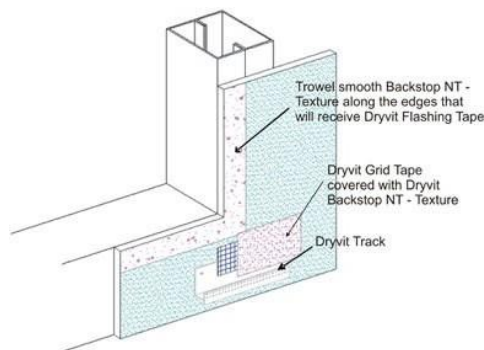

Fig. 18
- i. For concrete and masonry, ensure that a continuous film of uniform thickness is applied across the entire surface and across mortar joints. Minimum two (2) coats are required allowing a minimum of two (2) hours between coats. Cool, damp weather may require longer time between coats.
- d) While the Backstop NTX - Texture is still wet, using a trowel or spatula, smooth out the Backstop NTX - Texture around all window and door perimeters and other areas -Figure 18.
- d) While Backstop NTX - Texture is still wet, using a trowel or spatula, smooth out the Backstop NTX - Texture around all window and door perimeters and other areas— Figure 18.